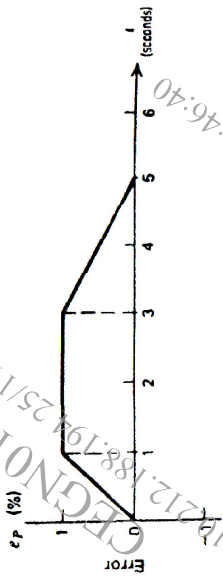

Figure.1
b) Figure. 1 shows an error time graph. Sketch the PD controller with $K_p = 5$, $K_D = 0.5 \text{ sec}$ and initial controller output, $P_0 = 20\%$. [10]